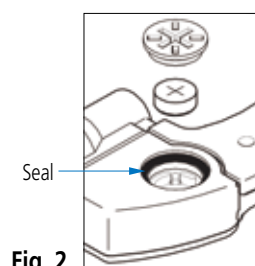

Fig. 2
6. When tightening the output connector cover and battery ensure that the seals are correctly seated so that they do not protrude (only for Digimatic models). (**Fig. 2**)